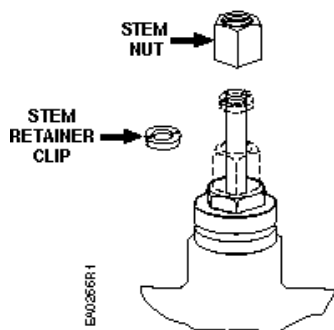

Figure 10. Stem Nut and Stem Retainer Clip.
7. Remove and retain the stem retainer clip and stem nut from the valve stem. See *Figure 10*.